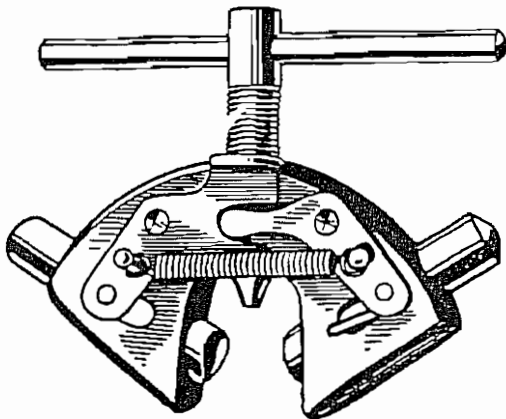

Fig. 37.
2. Open the jaws by pressing down the lever (See Fig. 37).